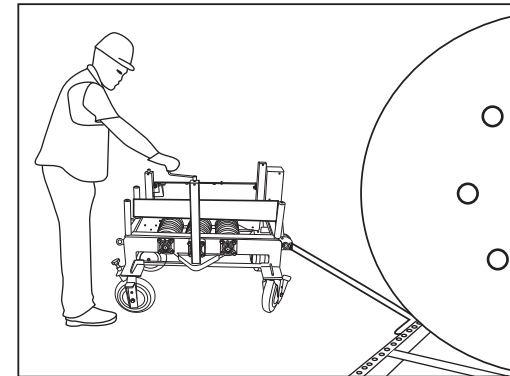

Fig. 1
3. Use a bar of strut or wood block below the reel jack to brace the T-Handle (Fig 1). To extend Feeder distance, unscrew the T-Handle and insert a 1 ½” piece of EMT or larger through the handle and brace it against the strut or wood block (Fig 7a-7b).